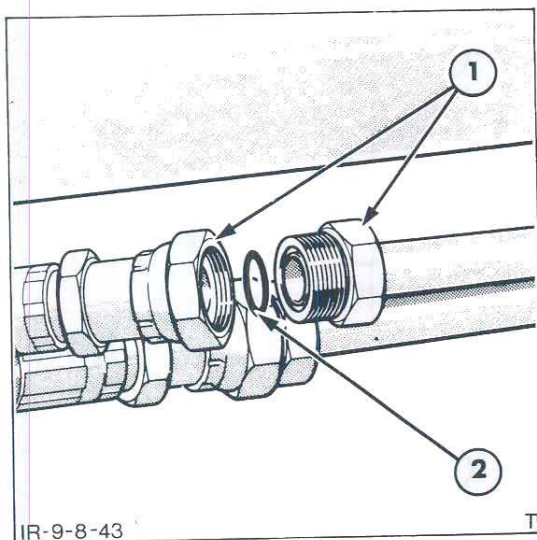

Figure 23
1. Release the fittings and separate the hose or tube assembly, then remove and discard the 'O' ring seal from the fitting, Figure 23.